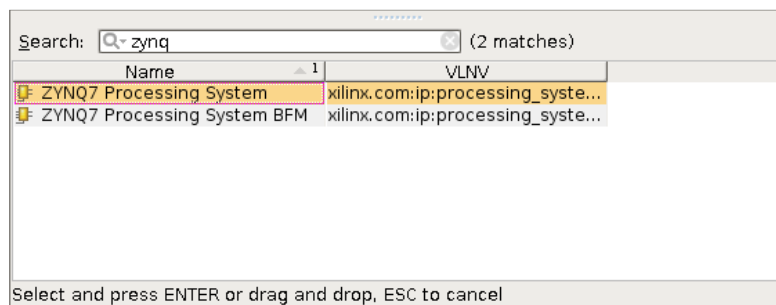

Figure 3: Zynq Processing System
- Click on 'Create Block Design' and name the design 'multiply'. In the diagram, add 'ZYNQ7 Processing System' IP as Figure 3.
- In the 'Re-customize IP' window, click on 'Peripheral I/O Pins'. To build the hardware depicted in Figure3. Enable 'UART 1' by clicking on the check box. Double check and make sure that only the 'UART 1' is selected.